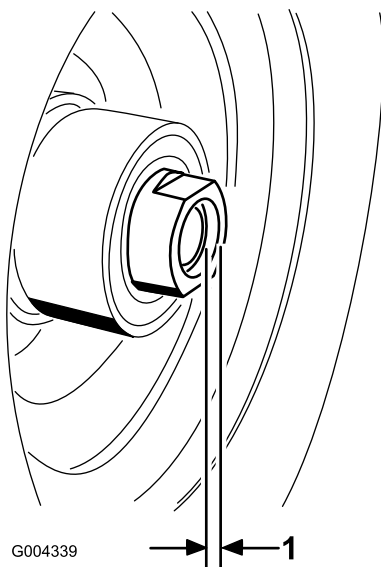

Figure 26
11. If both spacer nuts were removed from the axle, apply thread locking adhesive to the spacer nut. Install the spacer nuts onto the axle leaving an 1/8 inch (3mm) of the nut past the axle (Figure 26).
16. Torque the spacer nut to 75-80 in-lb (8-9 N·m) then loosen it and torque it to 20-25 in-lb (2-3 N·m). Make sure the axle does not extend past either nut (Figure 26).